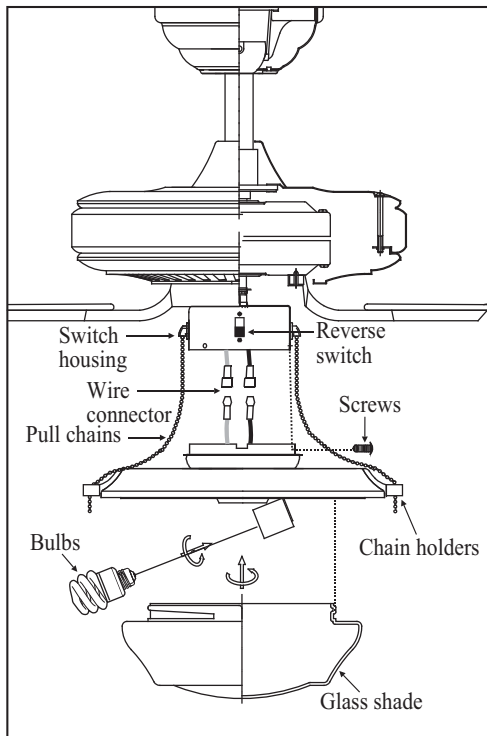

Figure 20
2. Carefully push all wires back into the switch housing. Attach the light kit fitter by aligning its keyhole slots with the three screws holes and reversing switch on the side of switch housing. Tighten the three screws securely to prevent the light kit from vibrating loose. (Fig. 20)
3. Pass the two pull chains on the switch housing through the chain holders located on the light fitter, install the fobs to the pull chains. (Fig. 20)
5. Raise glass shade up against the light kit and secure it to fan by turning glass clockwise until snug. **DO NOT OVERTIGHTEN.** (Fig. 20)